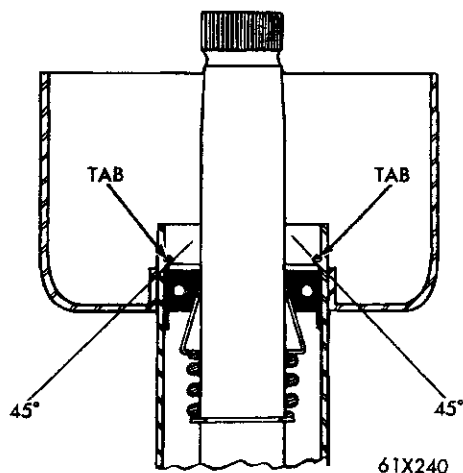

Fig. 5—Steering Jacket Tube Bearing Installation
(2) Pack the new upper bearing with short fiber grease and with the radius end of the bearing (inside diameter) facing downward, press the bearing squarely into the jacket tube until it stops against the bearing supporting lugs in the jacket tube, using a socket of the proper size, or a similar tool that will exert pressure on the outer race only.
(3) Place the large washer against the top side of the bearing outer race. Bend the three bearing retaining tabs down to an angle of 45 degrees (Fig. 5). Do not exceed the 45 degrees since this may cause internal damage to the bearing.
(4) Slide the jacket tube rubber seal and nylon rings on the steering column shaft.
(5) Install the direction indicator cancelling sleeve on the column tube.
(6) Install the jacket bearing snap ring in the steering column shaft lower groove; install a new snap ring if the old ring will not fully seat in the groove.
(7) Install the spring and tapered spacer (tapered end up).
(8) Carefully install the steering column shaft assembly into the column jacket tube.
(9) Support the column tube lower hub on a block of wood, place the upper snap ring on the steering column shaft, pull down on the jacket tube to compress the bearing spacer spring sufficiently to expose the upper groove in the steering gear shaft and install the upper snap ring. **Make sure** the snap ring seats fully in the shaft groove.
(10) Apply wheel bearing lubricant to the nylon rings and lip of the jacket tube seal and position the seal cup and nylon rings on the jacket tube large